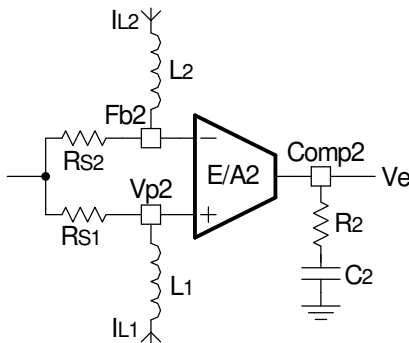

Fig. 23: The Compensation network for current loop
As shown the G(s) is a function of inductor current. The transfer function for compensation network is given by equation (21), when using a series RC circuit as shown in Fig 23.